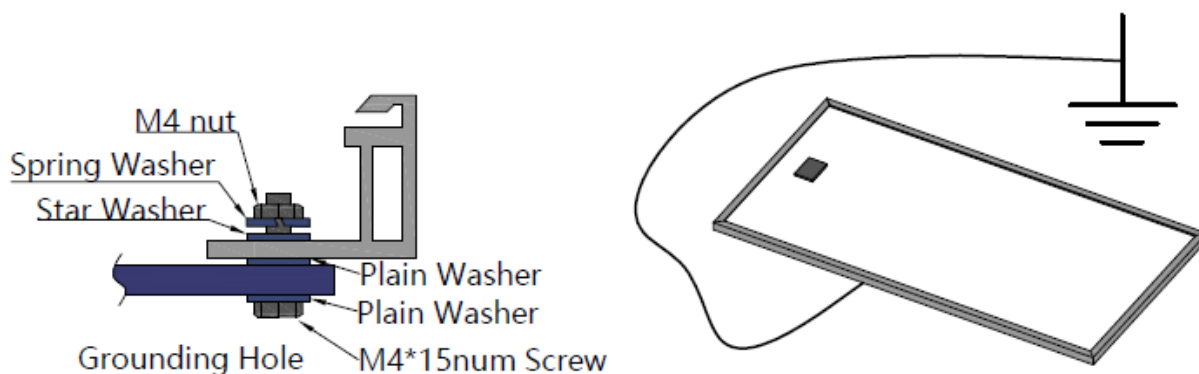

Figure 10: Ground installation of PV modules
- e) All module frames and mounting racks must be properly grounded in accordance with local and national electrical codes. Attach the equipment grounding conductor to the module frame using the hole and hardware provided. Note that a stainless steel star washer is used between the ground wire and module frame (see Figure 10 below). This washer is used to avoid corrosion due to dissimilar metals. Tighten the screw securely.